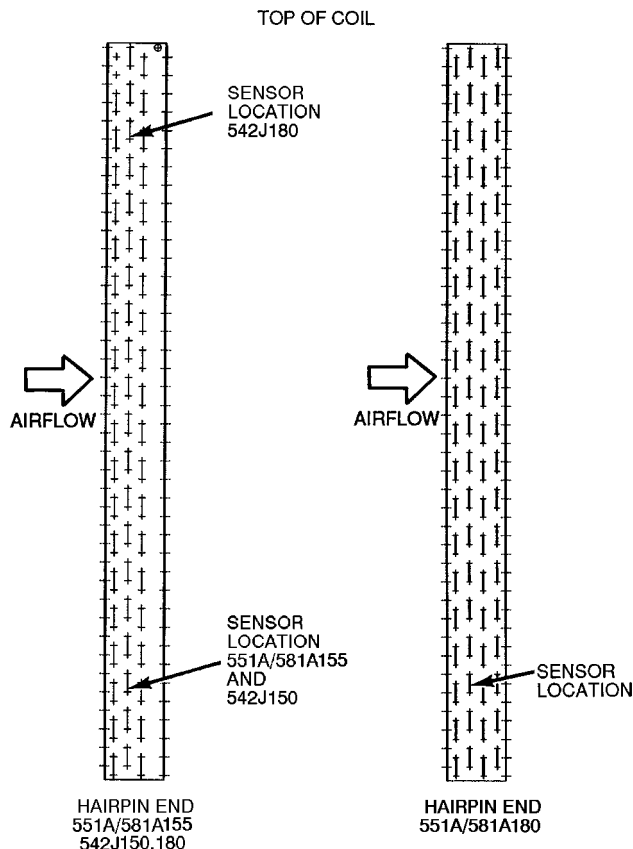

Fig. 3 — Sensor Location on Condenser Coil, 542J, 551A, and 581A Units
3. Mount sensor on an outdoor coil hairpin bend as shown in Fig. 3 or 4.